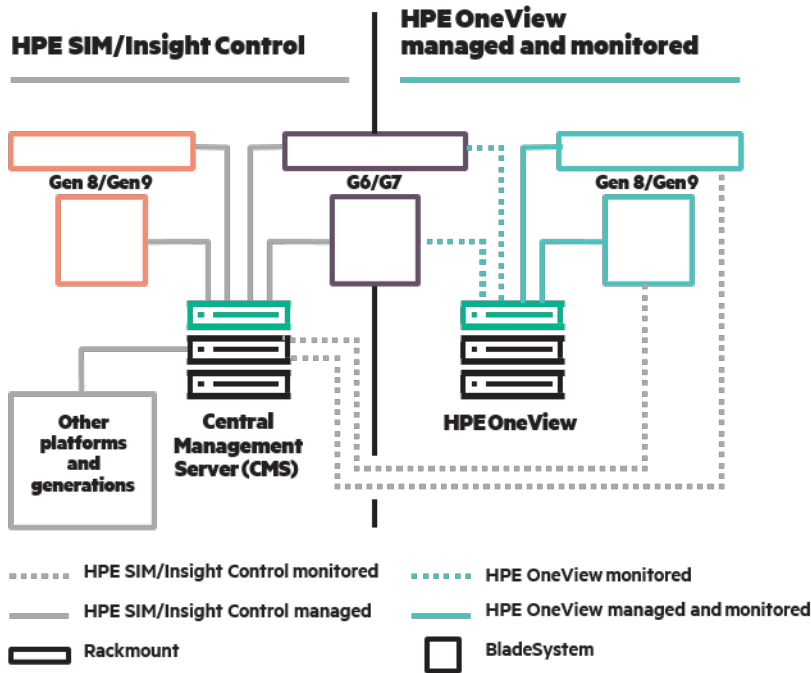

Figure 2. Management and monitoring in legacy environments
- Legacy-managed environment: To keep the integrity of this management hierarchy, continue to use HPE SIM and HPE Insight Control in in the traditional management and monitoring roles (see Figure 2). HPE OneView is not used to manage or monitor devices in this environment.
Table 3. Identifies supported platforms for the monitoring and management environment shown in Figure 2.